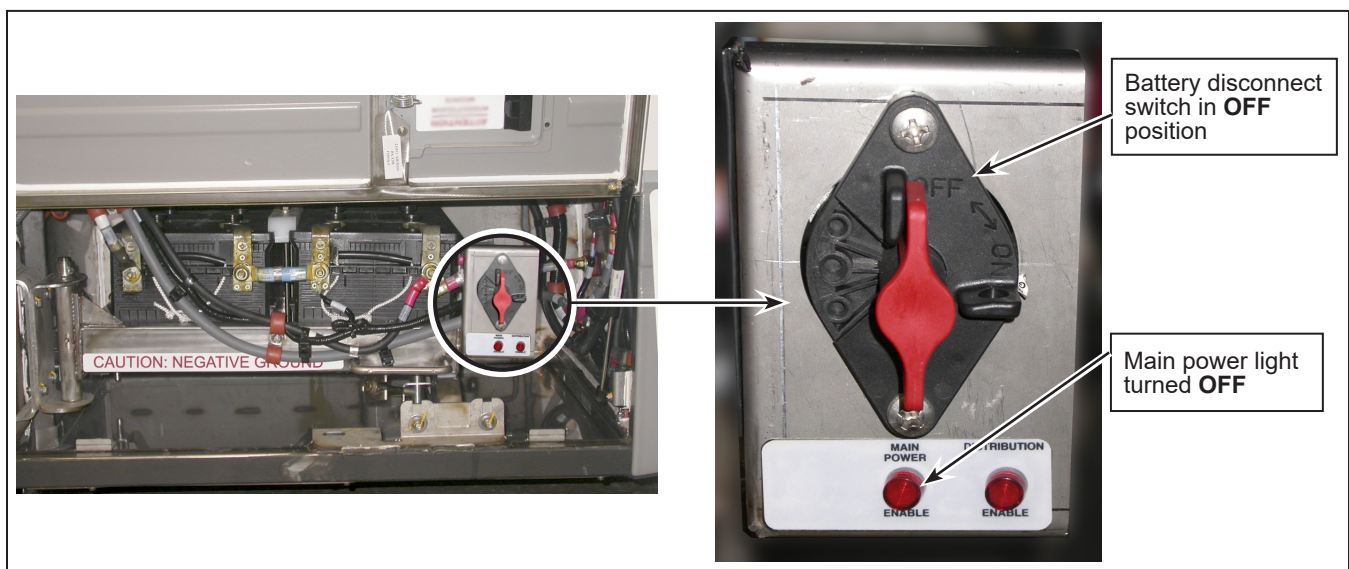

Figure 2 - View of Battery Disconnect Switch
- 1.4. Set the battery disconnect switch in the battery compartment to the OFF position (see figure 2).